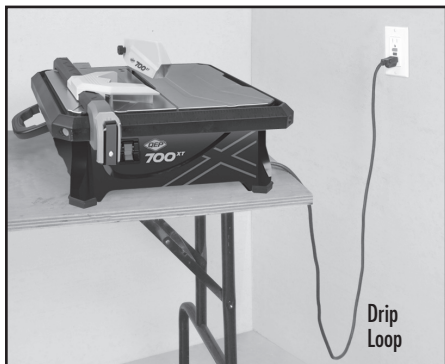

FIGURE 12
2. Create "drip loop" in the cord (see FIGURE 12).